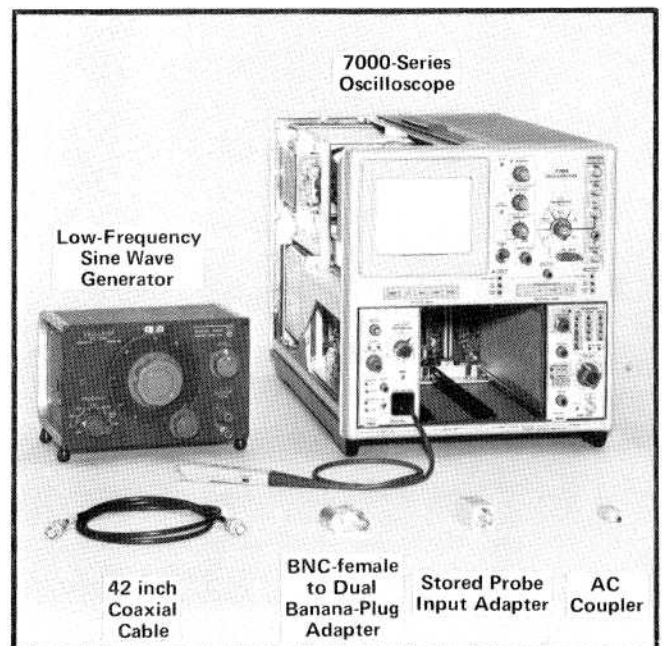

Fig. 5-9. Equipment for step 11.
a. Control settings given in Table 5-2 apply. Equipment required for step 11 is shown in Fig. 5-9.
c. Set the Low-Frequency Sine Wave Generator (item 8) Amplitude to minimum.